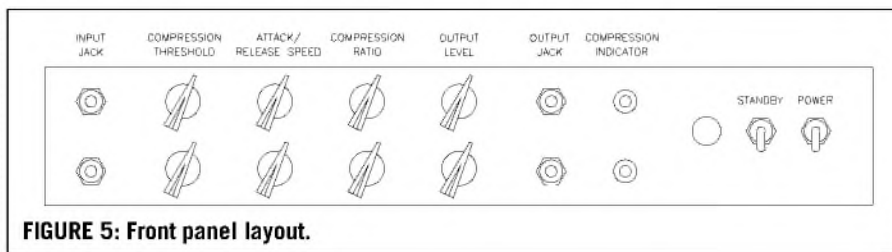

FIGURE 5: Front panel layout.
1. Prepare a detailed layout of component placement. The layout I used on the prototype is shown in Figs. 3 and 4. Figure 5 shows the front-panel layout. Change this if you like, but be sure to adhere to the following construction guidelines: